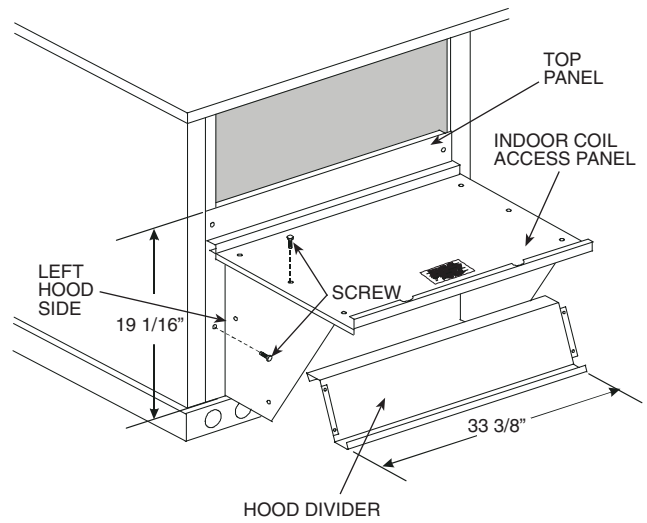

Fig. 21 — Outdoor-Air Hood Construction
4. Swing out indoor coil access panel and insert the hood sides under the panel (hood top). Use the screws provided to attach the hood sides to the hood top. Use screws provided to attach the hood sides to the unit. See Fig. 21.